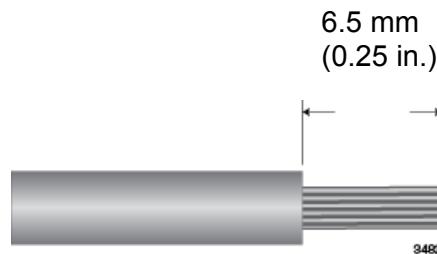

Figure 34. Stripping the Stranded Grounding Wire
1. Strip an adequate amount of insulation from one end of the ground cable, for the ring lug. The amount may vary depending on the type of ring lug, but 6.5mm (0.25 in.) is typically sufficient. Refer to Figure 34.